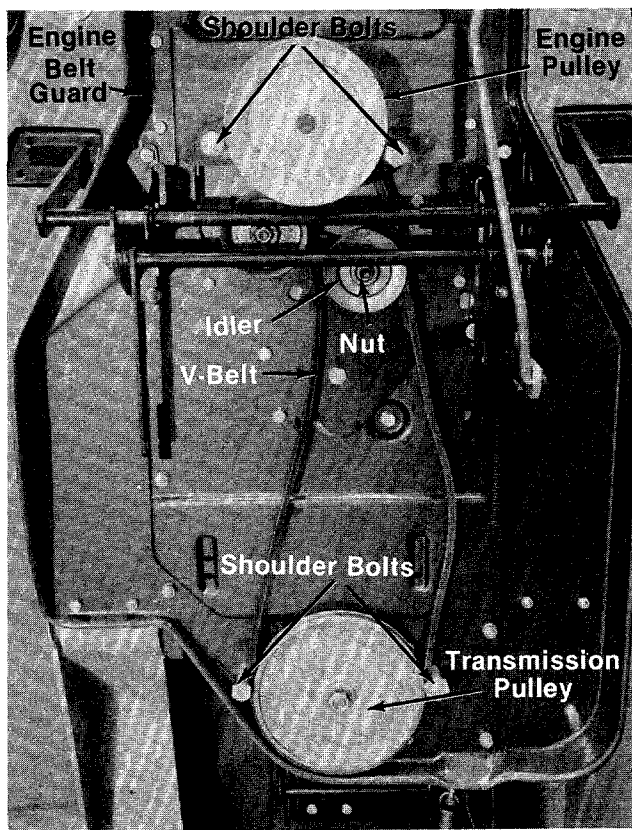

FIGURE 48.
2. Remove the two shoulder bolts by the engine pulley. See figure 48.
5. Remove the two shoulder bolts from the engine pulley. See figure 48.
8. Remove the engine belt guard. See figure 48.
9. Remove the nut on the V-idler and slide the idler off the bracket. See figure 48.
10. Remove the two shoulder bolts by the transmission pulley. See figure 48.